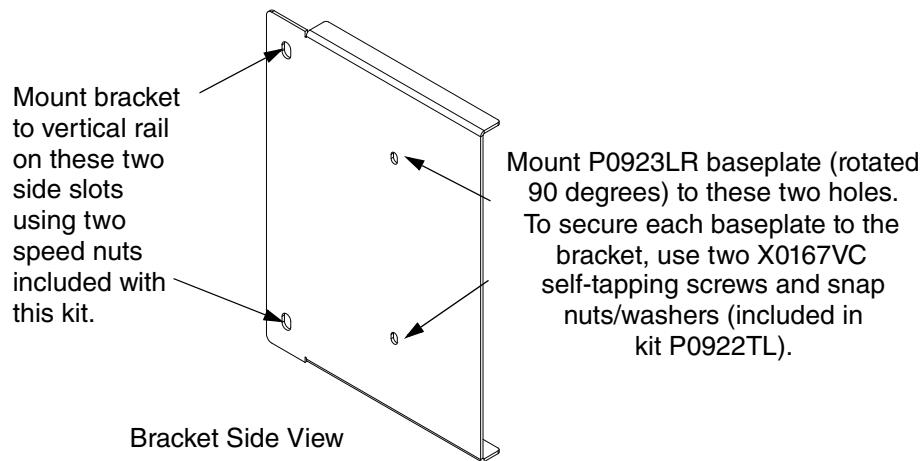

Figure 4-28. Baseplate Mounting Bracket for One Baseplate (Kit P0922TL Shown)
- a. To mount a single FBI100 baseplate, use Baseplate Mounting Bracket (P0922XE, shown in Figure 4-28) from kit P0926TL. Attach the bracket to the back of the baseplate using the hardware supplied in the kit. Then, bolt the mounting bracket flange to the rail running vertically along the front edge of the enclosure's side, closest to the door. The bracket may be installed on either the left or right side of the enclosure.